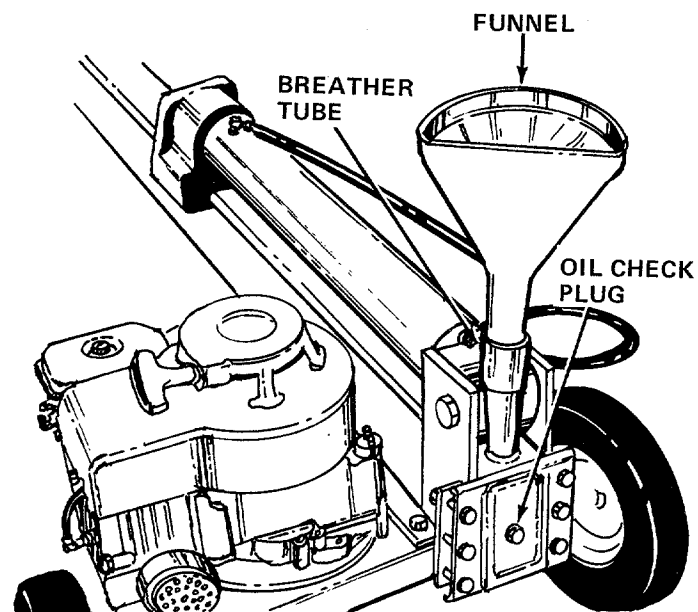

FIGURE 9
- B. Remove the oil check plug from the back of the log splitter. See figure 9. If oil starts to come out of the hole, oil level is correct. If it does not, remove the cap from the breather tube and add oil until oil starts out of the check hole.